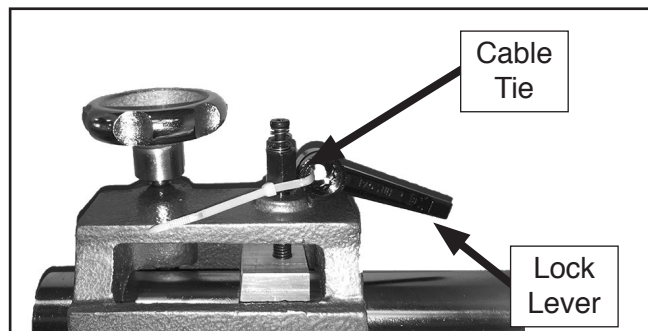

Figure 1. Lock lever removed for packaging.
1. Cut cable tie and remove lock lever (see **Figure 1**).